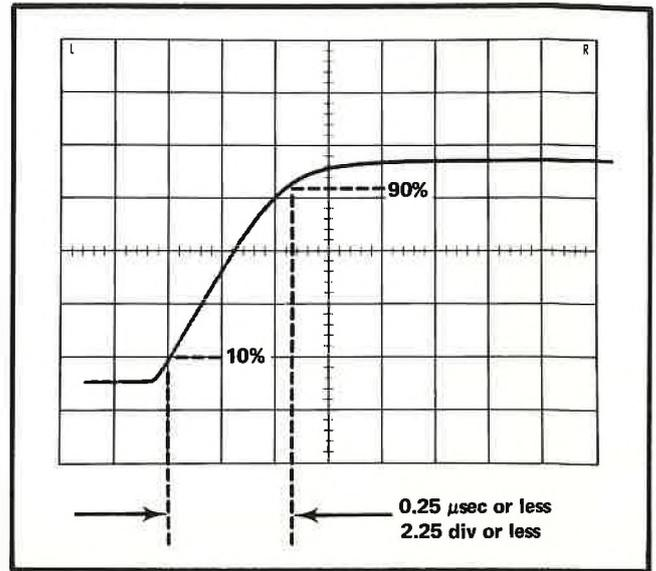

Fig. 5-15. Typical CRT display when checking calibrator risetime.
- g. CHECK—Displayed waveform has a risetime from the 10% to the 90% point of 0.25 μ s or less (see Fig. 5-15).